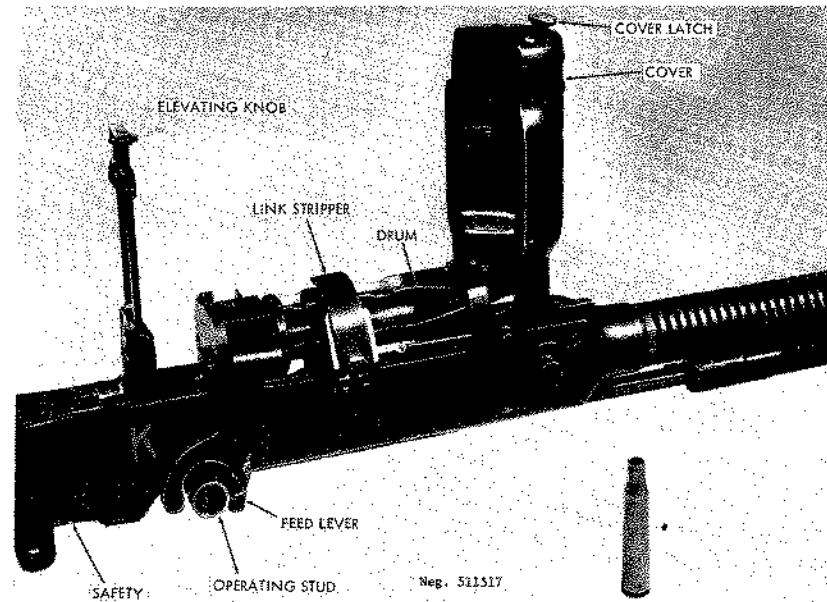

Figure 218. DShK-38 receiver details.
c. To load the DShK-38 rotary feeder, press the cover latch and open the cover (fig 218). Slip the link stripper into the first link, and place the first cartridge in the belt into the topmost compartment of the drum. Grasp the end of the belt with the right hand; with the left hand, press the belt against the drum; then sharply jerk the belt to the right and down so that the drum and cartridges will rotate as far as possible. Close the cover.
If the gun is not to be fired immediately, rotate the safety (fig 218) forward.
(1) Clear the gun, but leave the feed cover or drum open.
(2) Press out the cross pin at the rear of the receiver; drive the backplate upward until it separates from the receiver.
(3) Drive the sear mechanism to the rear and remove it.
(4) Grasp the knurled gas piston tube under the barrel and force it as far forward as possible; then turn it clockwise to disengage it from the barrel.
(5) Pull the operating stud (fig 218) to the rear and remove the gas piston, bolt, slide, gas piston tube, etc. Lift the bolt off the slide and remove the firing pin and the locking flaps.
(6) On the Model 38/46 only, unscrew the nut at the top front of the receiver and remove the barrel lock to the side. Pull the barrel forward, out of the receiver.
(7) No further disassembly is necessary or desirable.